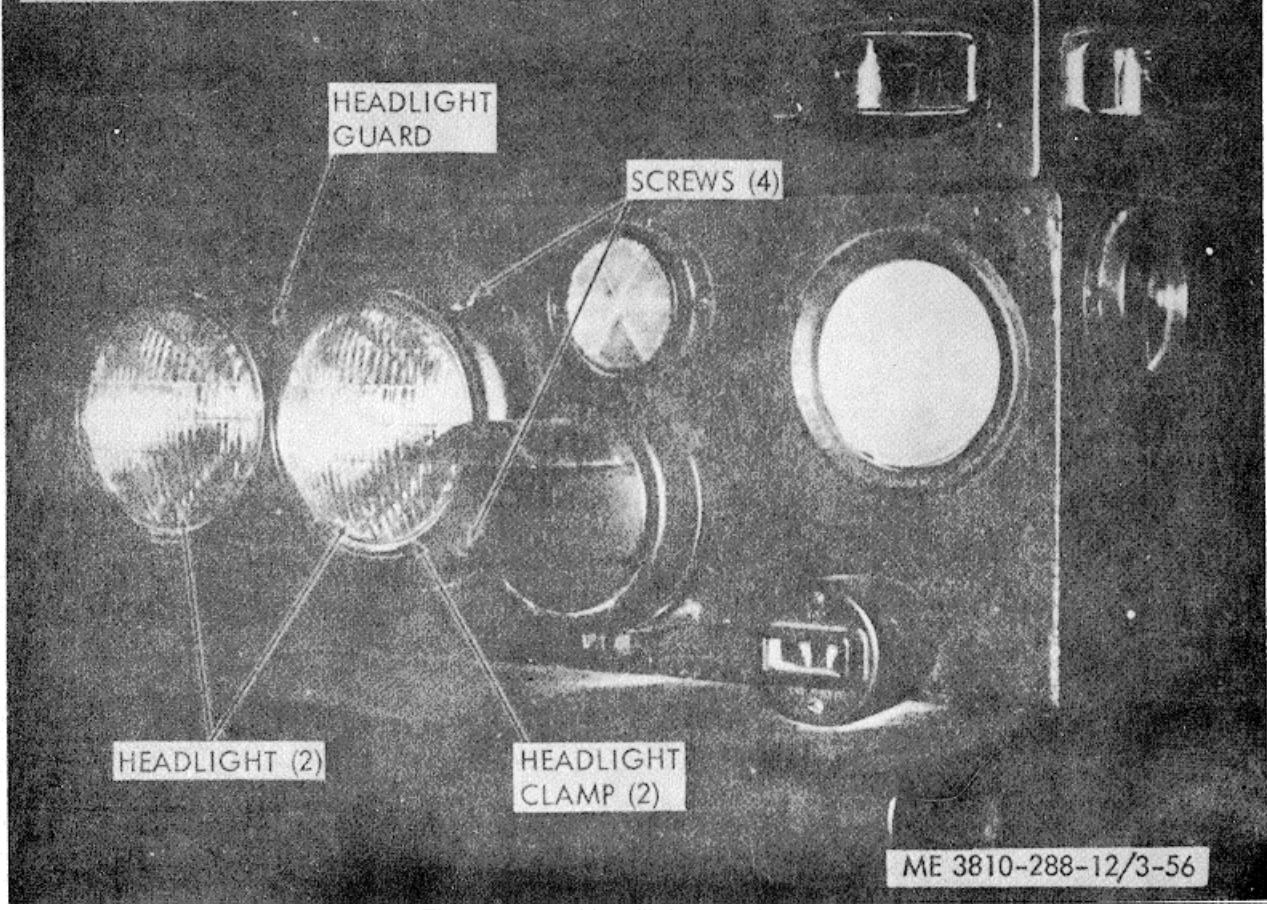

Figure 3-56. Headlights, replacement
(1) *Headlights.* Refer to figure 3-56 and replace faulty headlights.